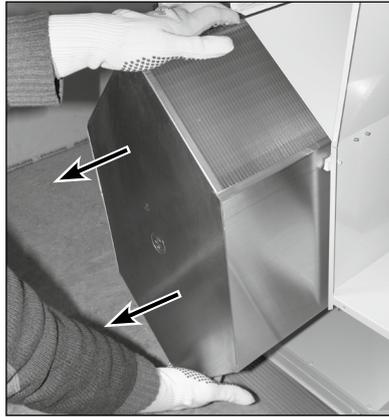

Fig. 18
4. Remove the heat exchanger from the unit to reduce the weight (see Fig. 18).